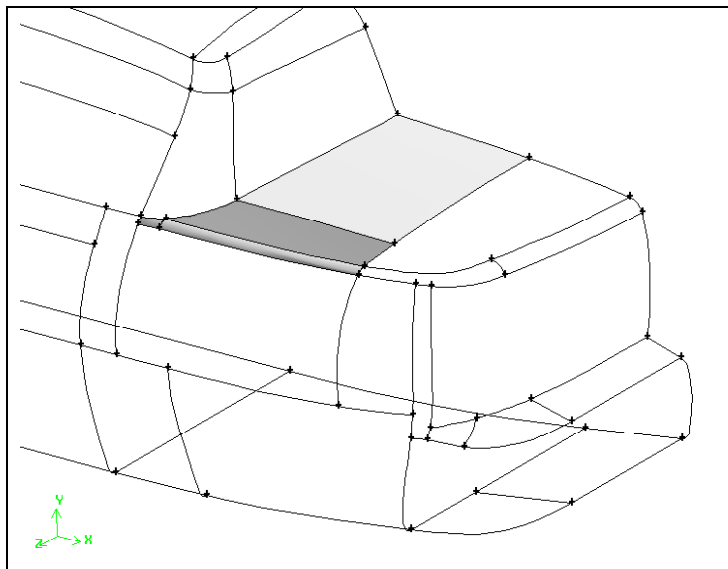
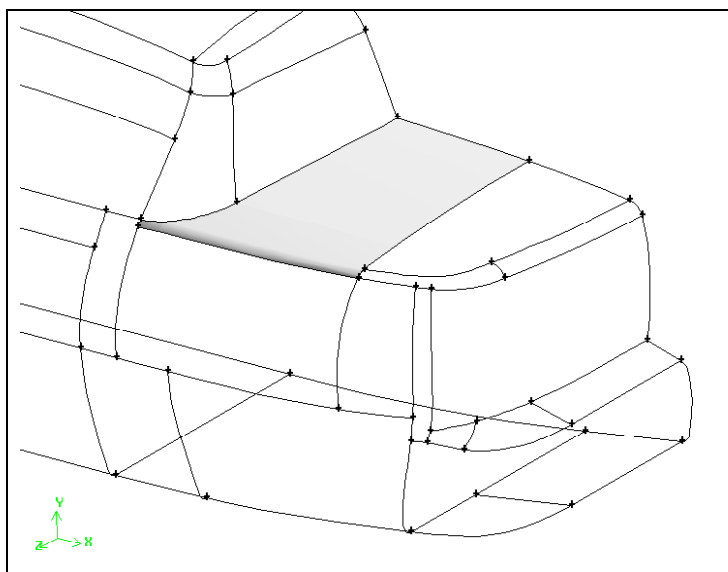

Figure 5-11: Four faces on trunk of sedan
Figure 5-12: Four faces merged on trunk of sedan
2. Merge four faces on the trunk of the car (see Figure 5-11) using the method described above. The merged faces are shown in Figure 5-12.